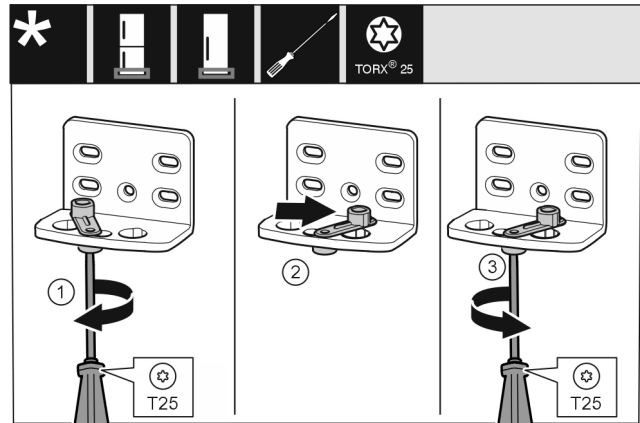

Fig. 18 *
- ▶ Use screwdriver to loosen the screw Fig. 18 (1).*
- ▶ Lift the door closing aid Fig. 18 (2) and turn 90° clockwise in the hole.*
- ▶ Tighten screw Fig. 18 (3) with screwdriver.*